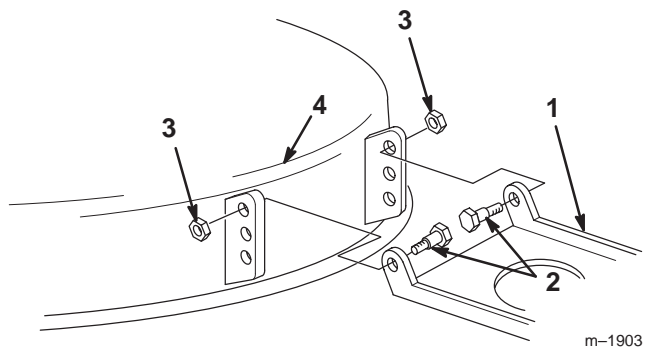

Figure 52
- If the 1/4 to 5/8 in. (6 to 16 mm) front slope cannot be achieved by rotating the slope adjusting nut, move the mower pivot mount at the mower (Fig. 52).
- Remove the shoulder bolts and locknuts from the mower (Fig. 52).
- Lower the mower pivot one hole and install the shoulder bolts and locknuts (Fig. 52).